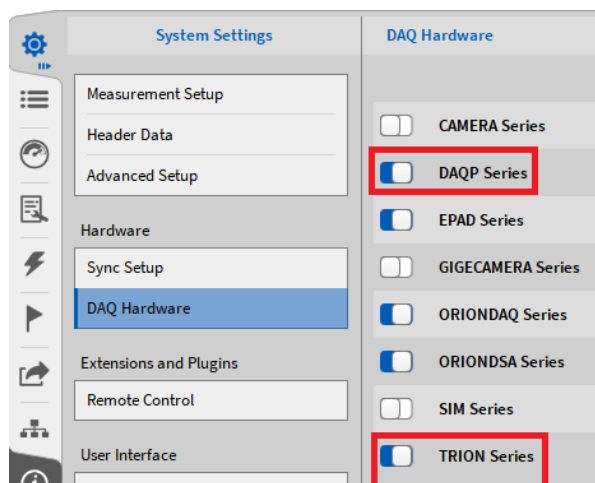

Figure 2-26: Enabling DAQP and TRION™ hardware in the DAQ Hardware setup
- Go to the *DAQ Hardware* setup in the *System Settings* and make sure that the *DAQP Series* and the *TRION Series* are enabled (see Figure 2-26) (Changes take effect on application restart).